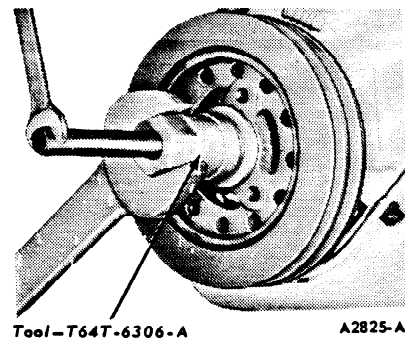

FIG. 39 Installing Damper
5. Align the damper keyway with the key on the crankshaft. Install the damper on the crankshaft as shown in Figure 39.